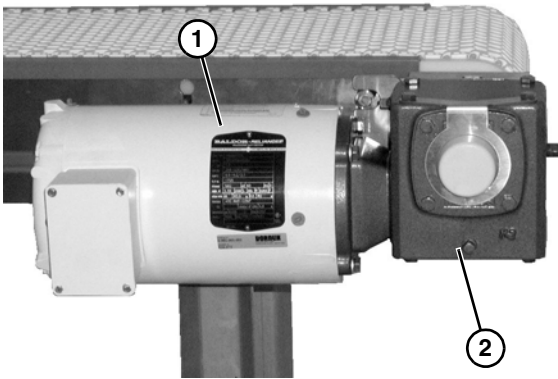

Figure 21
1. Attach the motor (**Figure 21, item 1**) to the gear reducer (**Figure 21, item 2**).